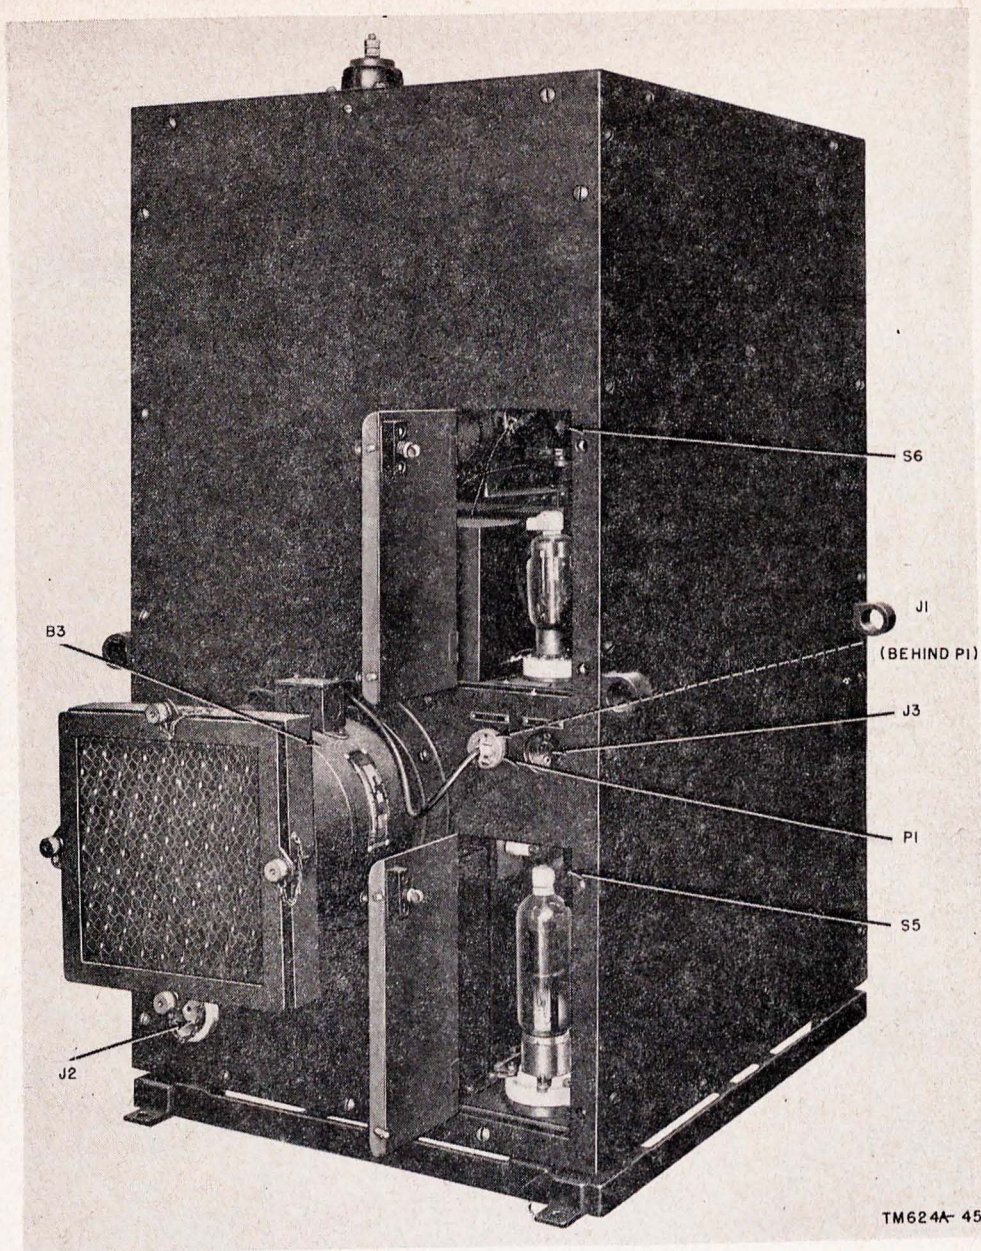

Figure 81. Amplifier AM-141(\*)/MRC, rectifier tube access doors open.
c. *Amplifier AM-141(\*)/MRC* (fig. 81 through 85). The replacement of parts in Amplifier AM-141(\*)/MRC is conventional in most cases; however, some parts may be more difficult to remove than others because of their physical size, weight, and location.
- (1) The amplifier should not be moved out of the shelter for repairs unless it is absolutely necessary or when a new amplifier is being substituted.
- (2) A number of the smaller parts are fastened to the front panel or to the subchassis behind the front panel. Some of these parts are accessible through the small front panel doors; for others, it is necessary to remove the front panel, the side panels, or both. The side panels are held by Dzus fasteners. Most repairs can be made by working through the doors on the front panel or by removing the left side panel. The left side is partially accessible with Radio Transmitter BC-610-I in place; however, it is necessary to temporarily relocate the transmitter if full access to the left side is needed.
- (3) A door at the rear of the shelter permits access to the working space behind the amplifier and transmitter. Two doors on the rear panel provide access to the rectifier tubes and rf amplifier tubes (fig. 81).
- (4) When the knobs are removed, make a note of the knob position in relation to the control position so that they may be reinstalled in the same relative positions. Refer to figures 81 through 85 for locations of the amplifier parts.
a. Remove the high-pressure blower B3 air filter and blower housing (fig. 81) by unscrewing the  $\frac{1}{4}$ -inch machine screw and turning the five Air-loc studs counterclockwise.